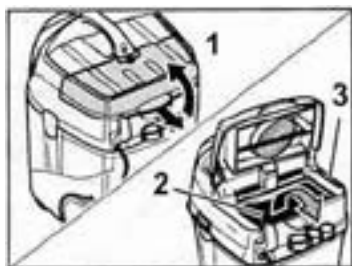

fig. 13
- Open the filter cover (1 fig. 13)
- Replace flat folding (2) or exhaust filter (3).